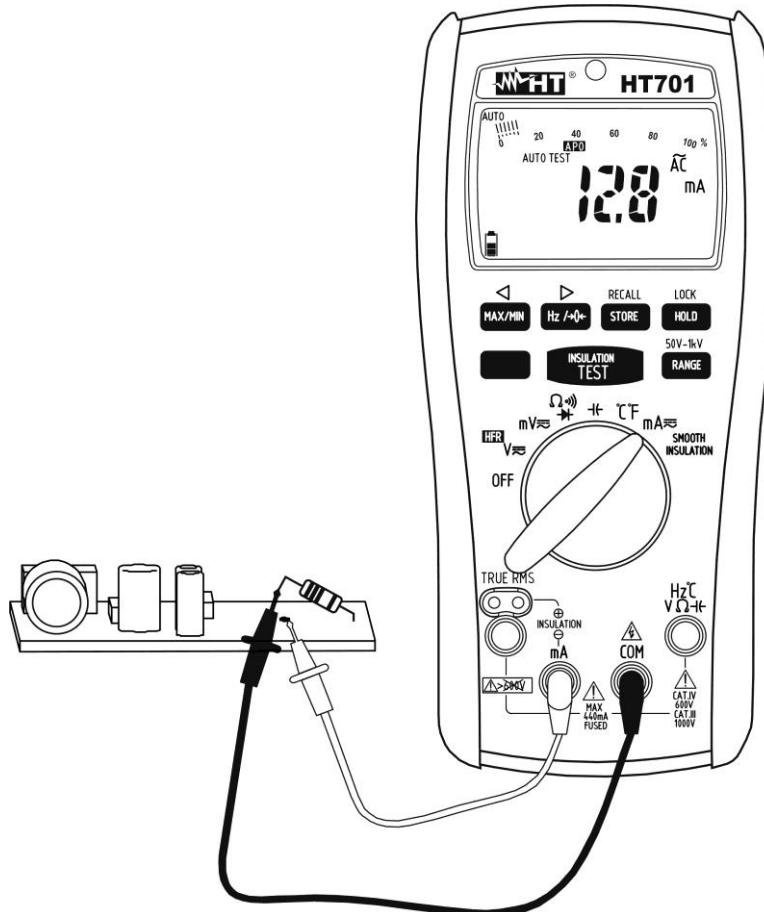

Fig. 5: Use of the instrument for AC current measurement
6. Connect the red lead and the black lead in series to the circuit whose current you want to measure (see Fig. 5).